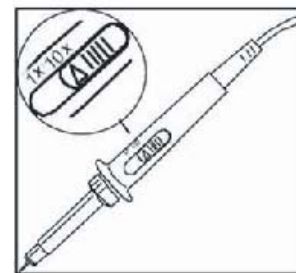

Figure 1-5 Setting the attenuation switch
- (1) Connect the probe of the digital storage oscilloscope to the CH1 input, and set the attenuation switch of the probe to 10X (Figure 1-5).